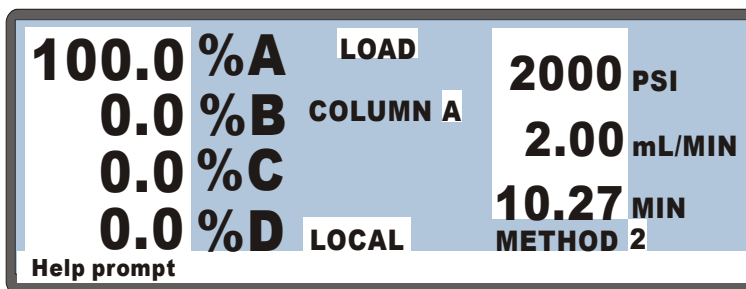

Figure 2-8. Main Screen
2. The operating mode field displays either **LOCAL** or **REMOTE** (see Figure 2-8). To change the mode, move the cursor to this field, press **Select** Δ or **Select** ∇ to toggle to the desired mode, and press **Enter** or a cursor arrow button. (For TTL input control, select Local mode.)
2. The control mode field displays either **DIRECT CNTRL** or **METHOD** (see Figure 2-8). To change the mode, move the cursor to this field, press **Select** Δ or **Select** ∇ to toggle to the desired mode, and press **Enter** or a cursor arrow button.
When the GS50 power is turned on, the pump is in Local mode (see Figure 2-8). In Local mode, the pump accepts operating commands from two sources: